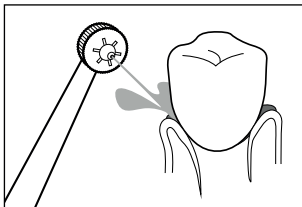
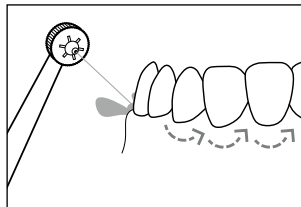

Fig. 8
Fig. 9
- ◆ Direct the water jet at the gaps between your teeth and the edges of your teeth to clean them. Position the nozzle attachment **2** so that the water jet can rinse the food remnants away from the gums (see Fig. 8). Move the nozzle attachment **2** slowly along the edge of the teeth from gap to gap (see Fig. 9). Clean all the front and back sides of your teeth in this way.